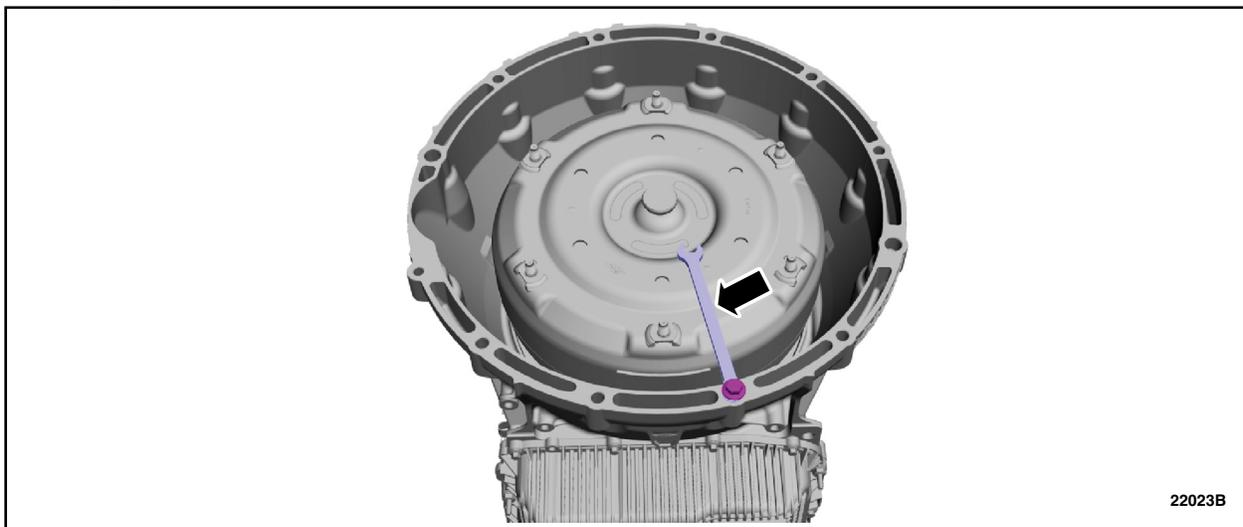

FIGURE 2
3. Rotate the transmission to a vertical position and remove the 12 mm combination wrench and bolt. See Figure 2.